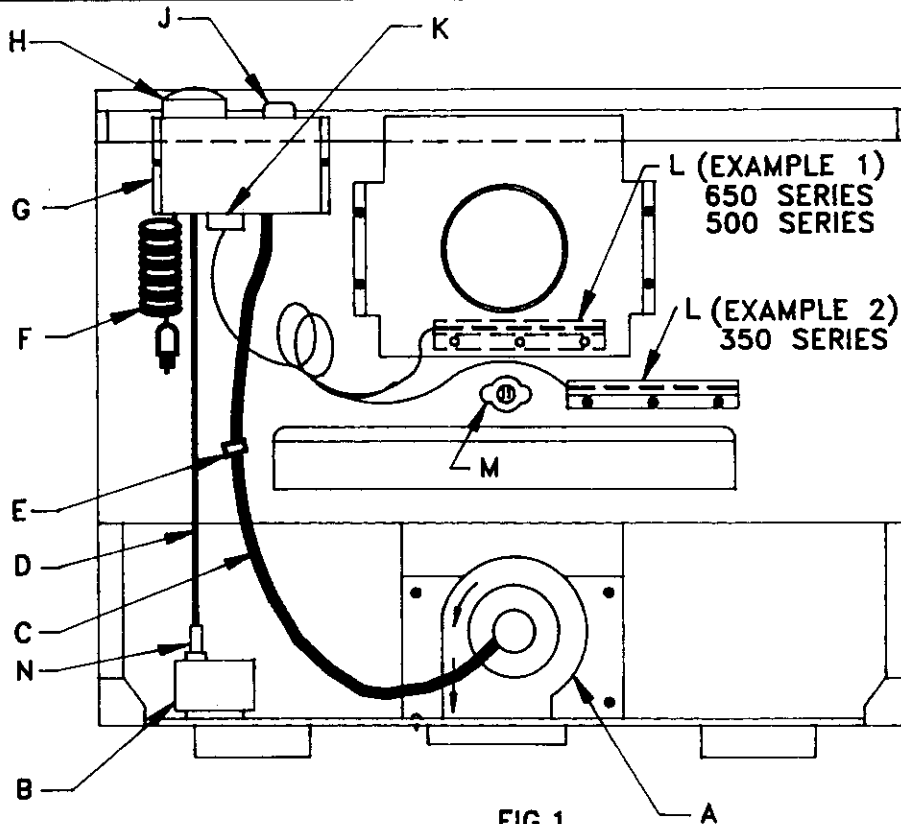

FIG.1
- STEP 2. Place motor & blower (A) on heater floor, securing with (4) screws as shown in FIG.1. Also place control box (G) near the top of furnace back, securing with (2) screws as shown in FIG.1.
- STEP 4.** Remove temperature dial from control valve (B) and discard. Install the coupling (N) to control valve and secure it by tightening set screw. Slide previously assembled control rod down through control box and insert it into coupling attached to the control valve. Secure rod to coupling with cotter pin.
- STEP 5.** Secure cable clamp (E) to the heater, as shown in FIGURE 1, with screw provided.
- STEP 6.** (Refer to FIG.1 page 15) Insert fan sensor switch, attached to fan limit switch (K), into sensor mounting bracket (L) as shown in FIG.1. See correct bracket location for your model in example 1 and 2.